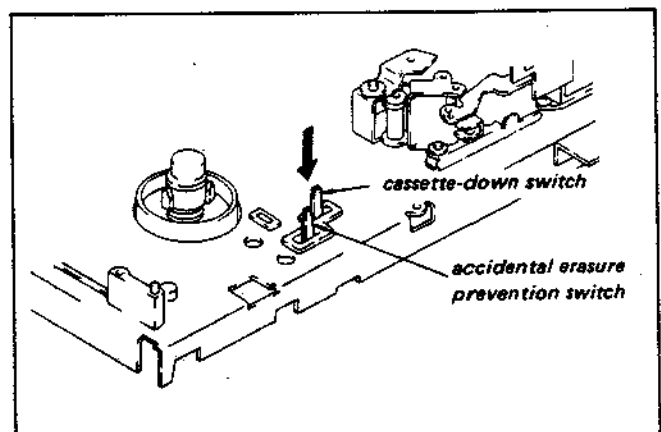

Fig. 1-7. How to put the recorder in recording mode with the FL cassette compartment removed
1. Thread by the procedure in 1-6-1 then press the accidental erasure prevention switch shown in Fig. 1-7.